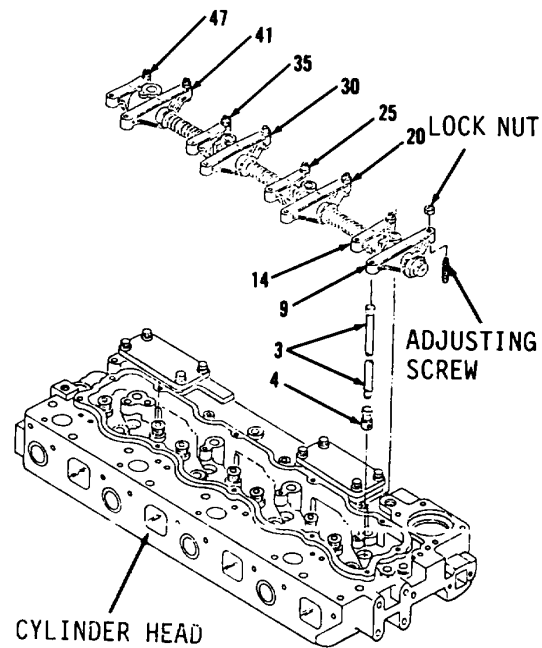

Figure 3-63.
7. Adjust intake valves for cylinders 1 and 2 on top of engine. Turn adjusting screws in arms (14 and 25, Figure 3-63) until a clearance of 0.012 to 0.018 inch is obtained. Secure screws with lock nuts.
8. Adjust exhaust valves for cylinders 1 and 3. Turn screws in arms (9 and 30) until a clearance of 0.022 to 0.028 inch is obtained between arms (9 and 30) and push rods (3). Secure screws with lock nuts.